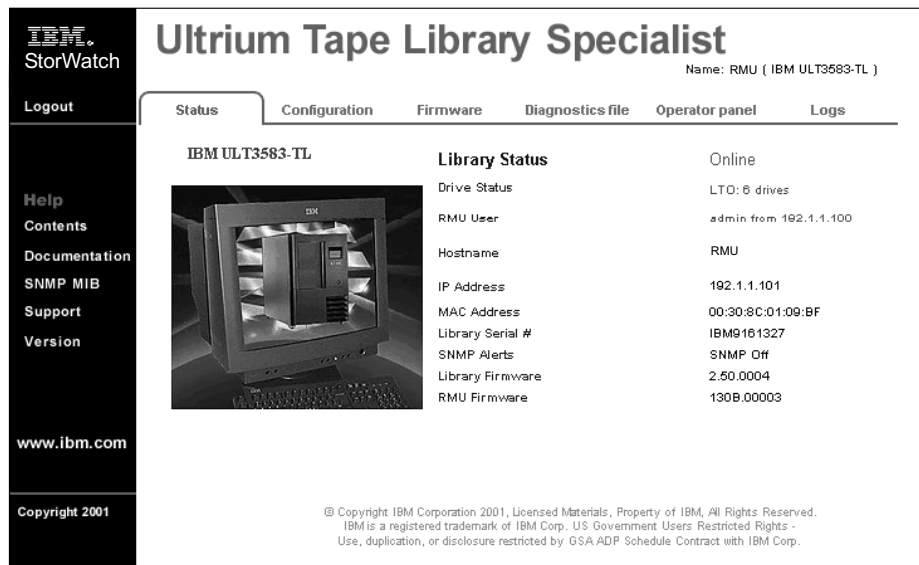

Figure 69. Status page
- You can also view the level of firmware currently loaded on the library or the RMU by opening the RMU web page and selecting the Status tab. The current status of the library displays (see Figure 69).